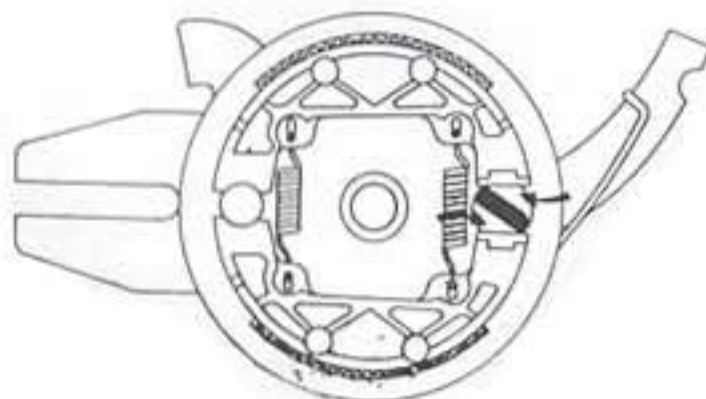

Fig. 3
- Coat the brake pivot cam with a light film of grease (fig. 3)